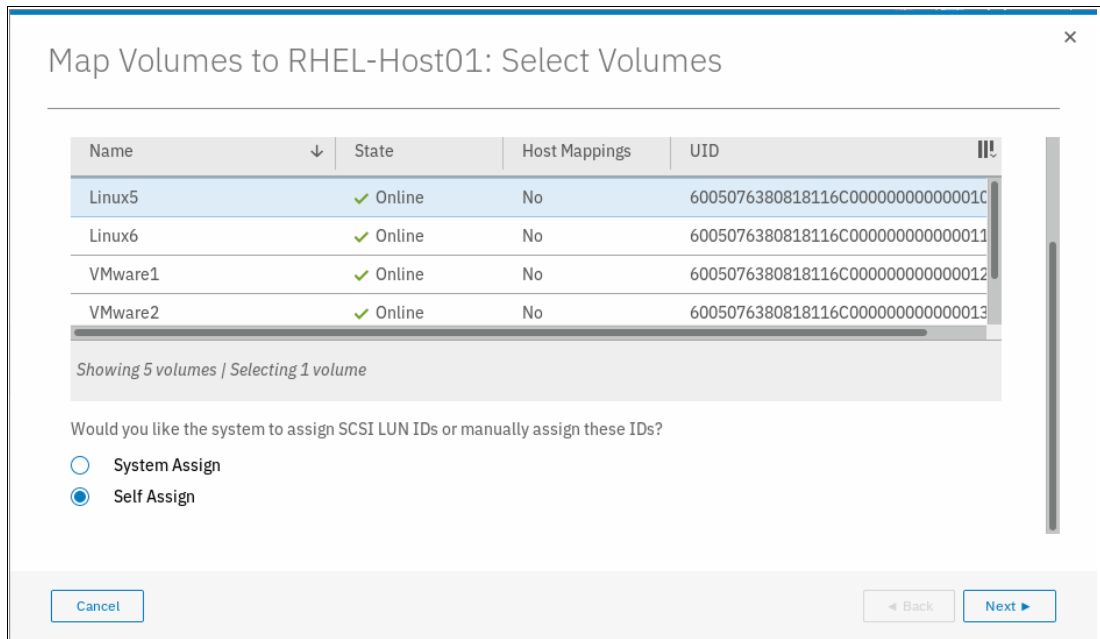

Figure 8-6 Selecting the volume and SCSI ID for mapping to a host
3. Select the volume that you need to map to the host. Also, indicate whether you want to allow the system to assign the SCSI ID or if you want to assign the SCSI ID manually. In this example, Linux2 volume is being mapped with the user supplied SCSI ID, as shown in Figure 8-6.